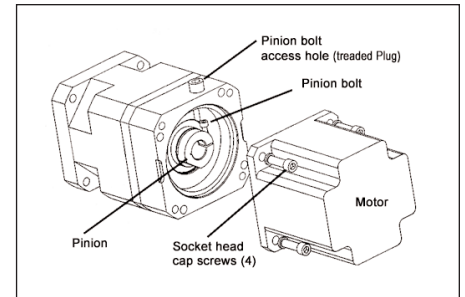

Fig. 1
- Bayside Precision Gearhead with ServoMount option (see Fig. 1)
- Socket Head Cap Screws (4) with Lock Washers